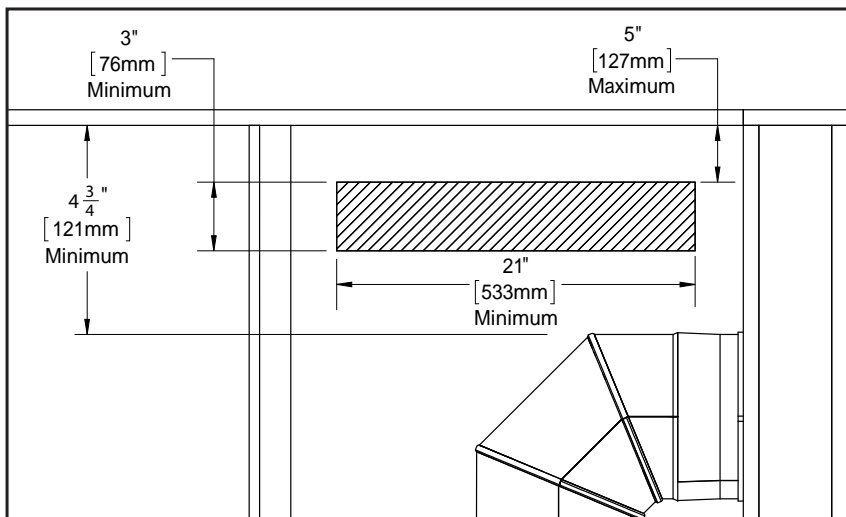
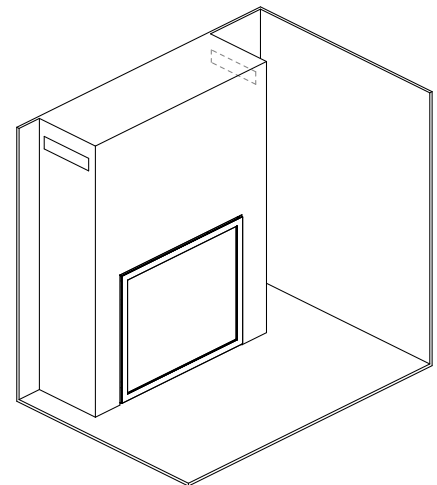

Figure 48: Side Discharge
Figure 49: Side Discharge Iso View
**Option 4: Side Discharge** - Construct the framing in a way that provides two gaps, one on each side of the chase as shown in Figure 48 & Figure 49. Each gap should be a minimum of 21 inch (533mm) by 3 inch (76mm). It is essential that these dimensions are followed and not to deviated from them when using combustible materials inside the chase.